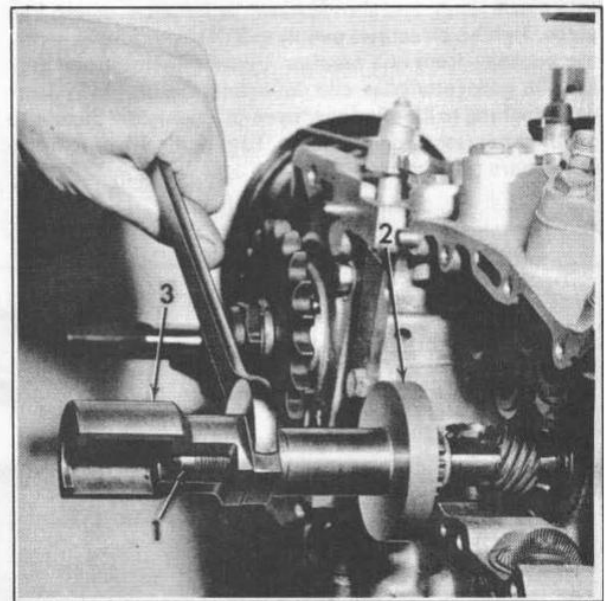

Figure 3-37. Installing Pinion Gear (1976 and Earlier)
INSTALLING PINION GEAR (Figure 3-37)
On 1976 and earlier models, assemble spiral gear against shoulder on pinion shaft engaging breather sleeve gear tooth which will register timing hole in breather sleeve (4) in center of slot in breather bushing as shown. Install pinion gear using Gear Puller and Installer Tool as shown in Figure 3-37.